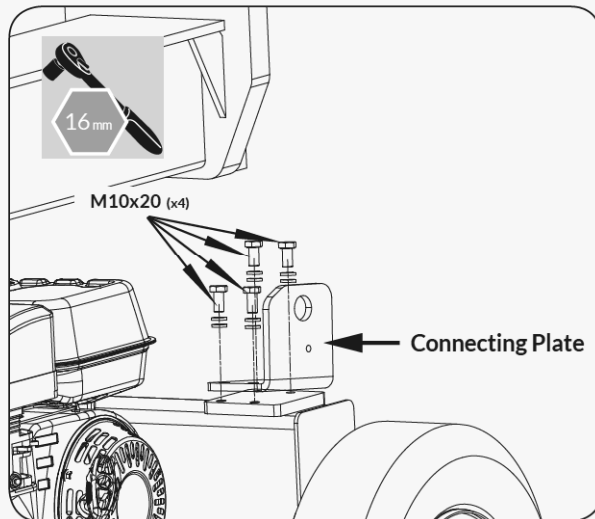

Figure 17
1. Assemble the connecting plate onto the tank, taking care to ensure the correct bending direction of the plate. (See **Figure 17**)